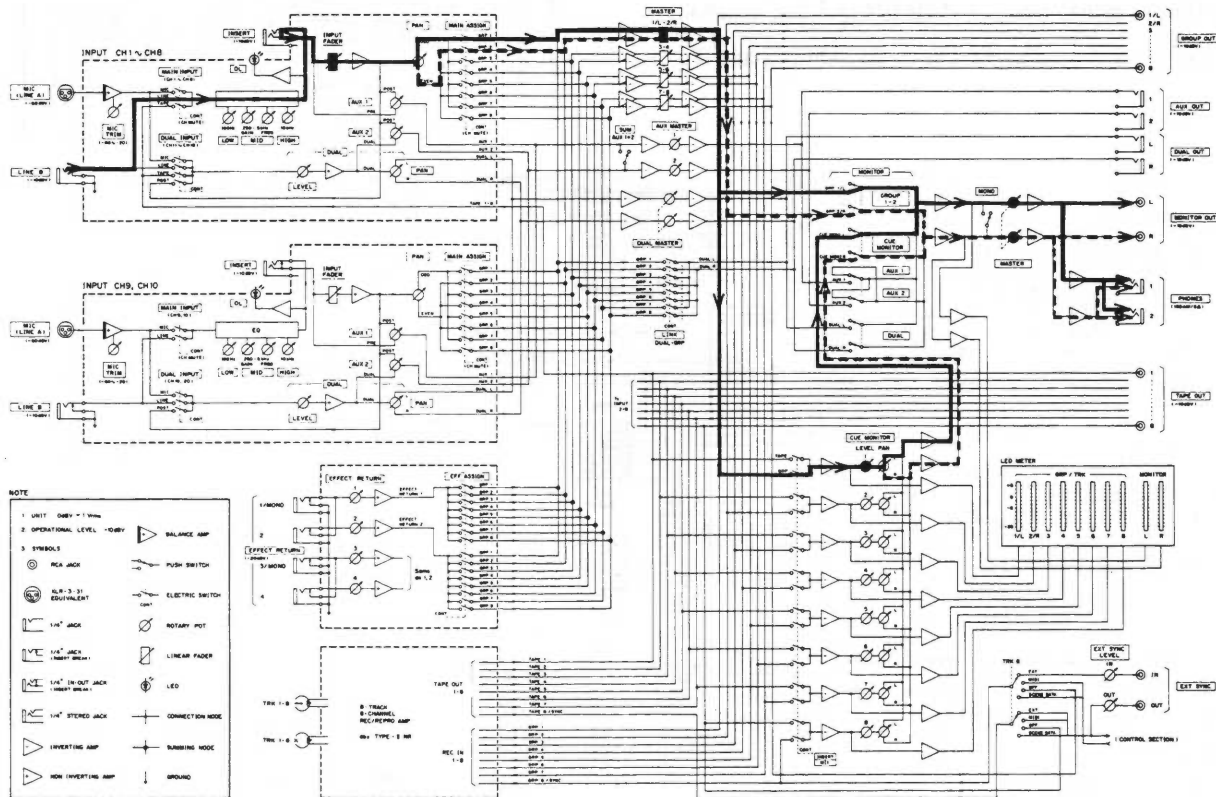

Fig. 5-6 / 図5-6
**5-7. MONITOR MASTER CONTROL (INSERT JACK —> MONITOR OUT JACK: Figure 5-6)**
3. When the main pan is made even, confirm that the output level at the Monitor (R) Out terminal is  $-10\text{ dBV} \pm 1.5\text{ dB}$ .
(LINE IN->MONITOR OUT : 図5-6)
(図5-6)
### 5-9. Headphones Monitor (LINE IN → PHONES OUT: Figure 5-6)
(LINE IN→PHONES OUT : 図5-6)